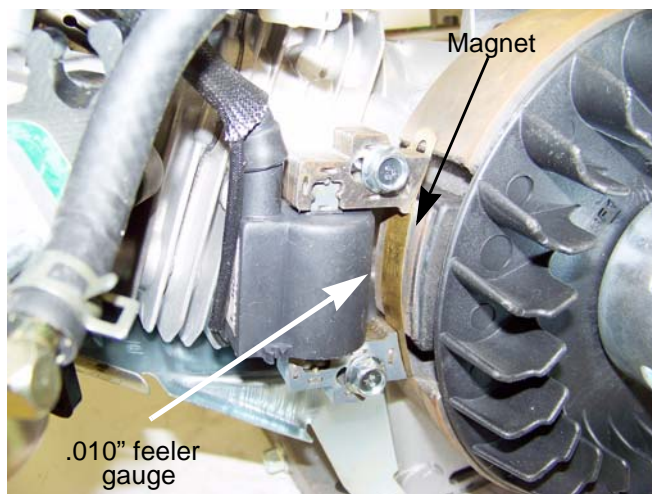

Figure 7.14
4. Rotate the flywheel so that the magnets align with the legs of the module while holding the feeler gauge in place. See Figure 7.14.